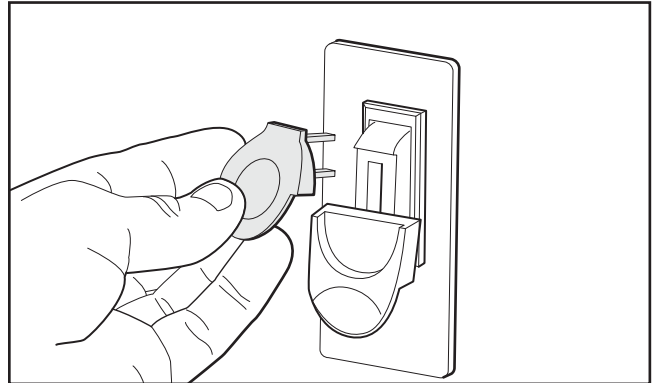

Figure 34. Removing switch key from paddle switch.
6. Remove the switch disabling key, as shown in **Figure 34**.